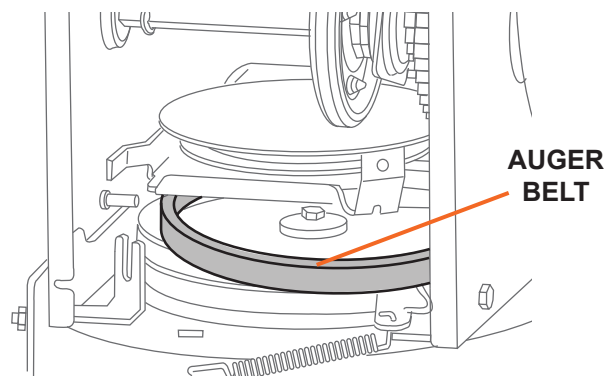

Figure 23
5. Remove the belt from the auger pulley, slip the belt between the support bracket and the auger pulley (see Figure 23).